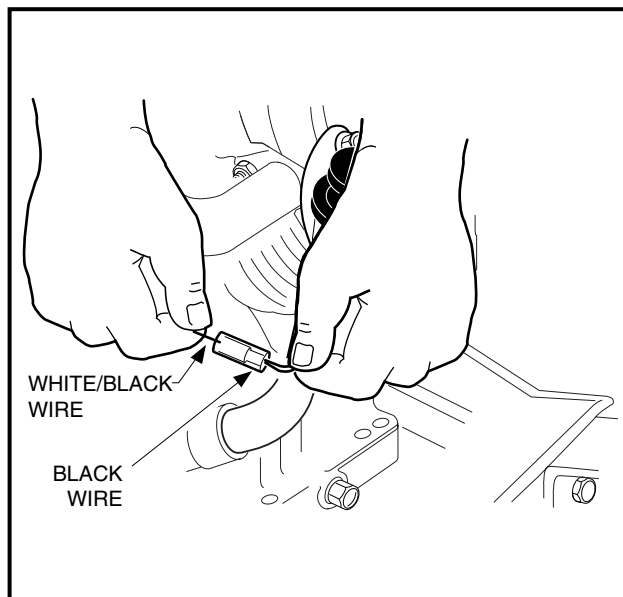

Figure 16-20 Engine Kill Switch Wire
- 5.14. Disconnect the engine kill switch wire (18-gauge white/black) from the bullet connector at the lower right front of the engine (**Figure 16-20, Page 16-10**).